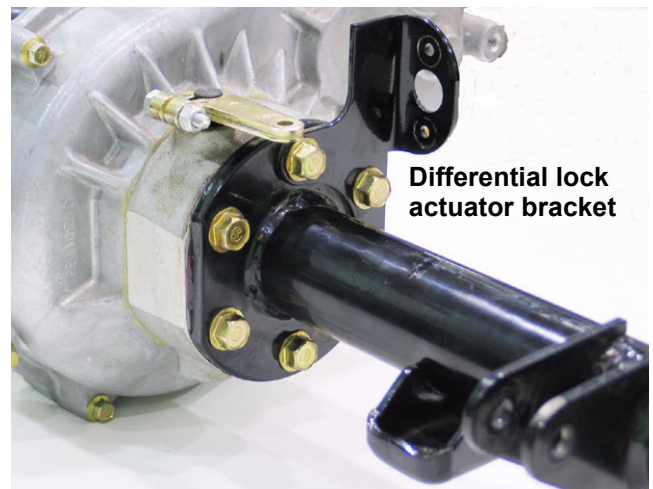

Figure 14.23
14.23. When assembling the axle tubes to the housing: See Figure 14.23.